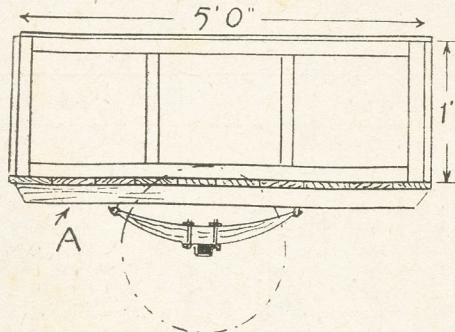
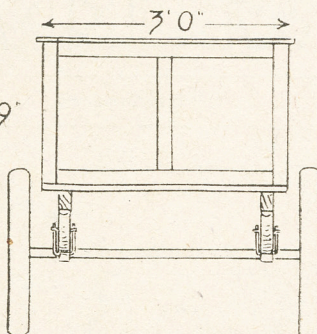

Fig. 1—Side view of body and spring
Fig. 2—End view with wheels and chassis
Fig. 1 shows a side view of the trailer, and Fig. 2 an end view. From these the general dimensions of the vehicle can be taken. The wheelwork is of importance, however, and if the reader can purchase a second-hand chassis in good order, of course, it would be wise to see to that part first, as any amendments to the dimensions of the box body can then be noted to ensure the body fitting the bought chassis.
For the corners cut the tenons with a shoulder to them, as at (B) in Fig. 1. When cutting out the accompanying mortises, it is as well to allow the wood